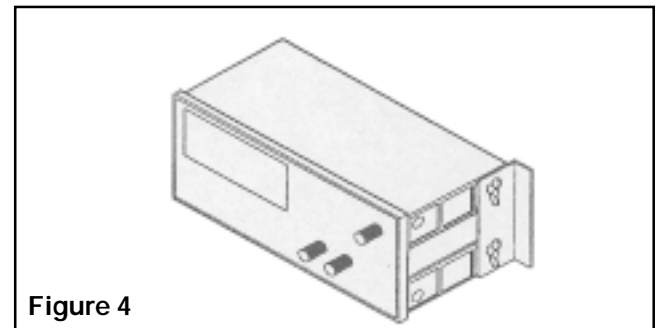

Figure 4
- b. For Wall Mounting, secure two mounting brackets with the four wing screws provided (See Fig. 4)